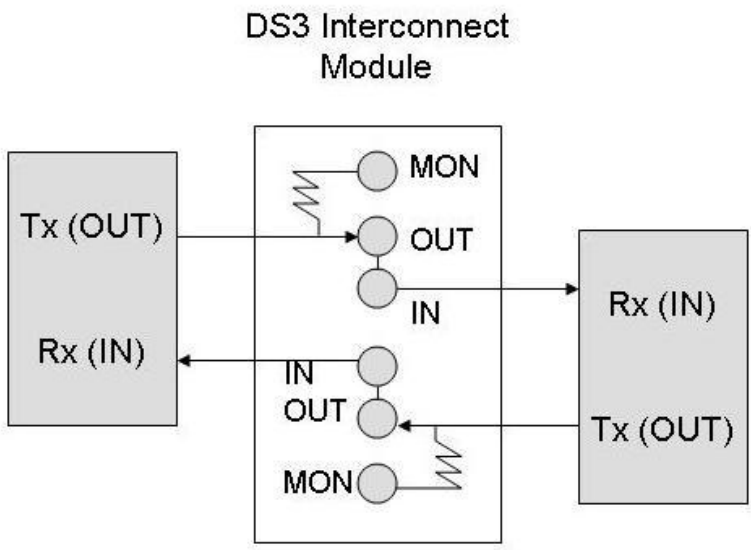
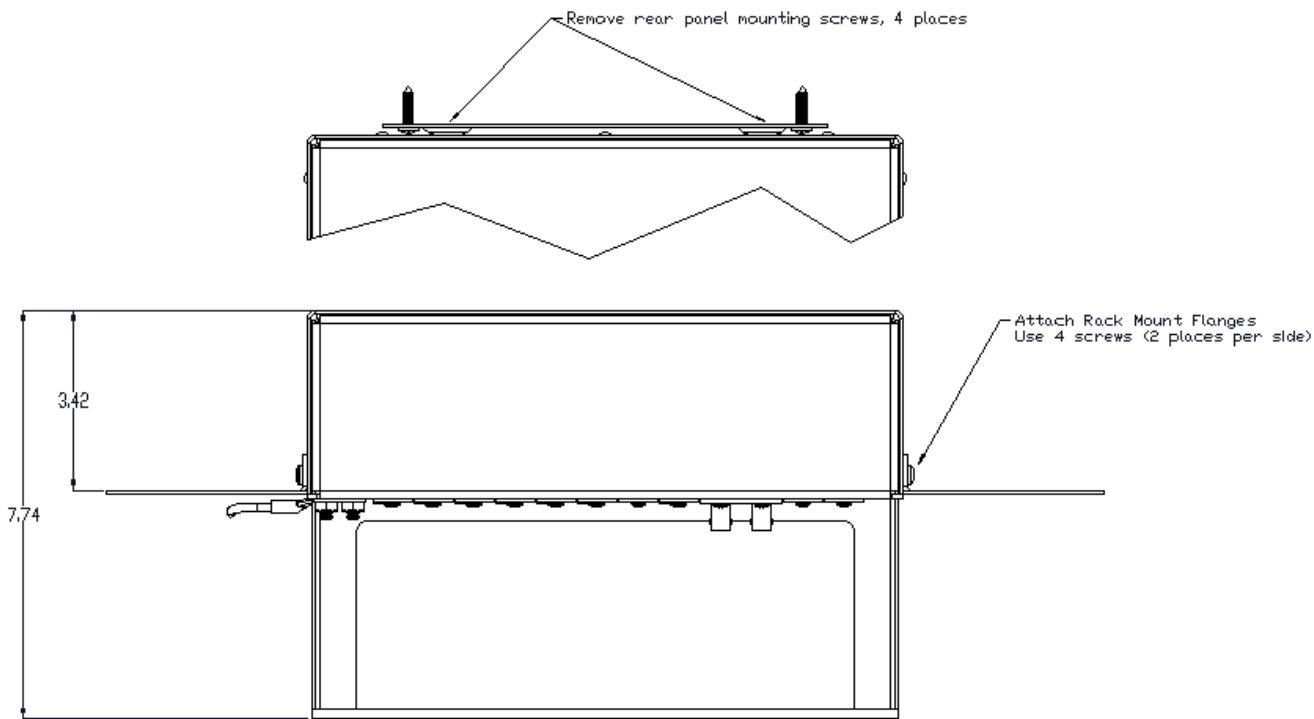

Figure 1 – DS3 Cable Interconnections
Figure 3. Optional 19" RS-310-C Adapter Mount Flanges (not provided with unit)
1. GENERAL DESCRIPTION: The Transtector DXR Digital Exchange Rack Protector is ideal for applications that require protection for T1/E1, 10/100BT, 1000BT, 48VDC and DS3 connections. The protection cards utilize silicon avalanche diode technology. The protection system consists of a versatile chassis that can mount to a wall surface or 2U 19" rack frame, with protection cards that load and connect entirely from the front face. The chassis system is available in 12-card wide and 4-card wide configurations. The DS3 and T1/E1 protection cards are optimized for the specific applications and are marked with the type, input connection, output connection and trouble shooting monitor connection. The DS3 card features a direct bond between each BNC ring to the chassis ground for optimum signal integrity and best grounding practice. The DS3 module within the DXR utilizes two individual PCB's to accomplish one interconnect point. By doing this, one complete DS3 circuit can be accomplished. Figure 1 illustrates the circuit schematic detailing the cable crossing that must be employed for DS3 equipment communications. The Ethernet cards provide the best protection and signal transmission integrity available on the market and are marked with the input and output connections. System status monitoring for the Ethernet circuits and protection cards are determined through the network polling functionality built into all standard Ethernet equipment. The DXR pn 1101-875-1 is provided with a fully configured system of four each T1/E1 protection cards, two each 1000BT protection card. A 48VDC module is available in addition to the other modules. The 48VDC module provides 4 pairs of input lines and 4 pairs of output lines. Two RJ-45 connectors are used for the I/O's and are located on the face plate. Unused card slots are covered with a blank plate. The protection circuits offer bi-directional protection, with the optimum protection oriented towards the sensitive equipment connected to the O (output) side. All RJ-45 connected protection configurations offer straight through pin-outs from the input to output connectors. It is up to the user to swap between the Transmit and Receive wire pairs if required. The DXR chassis are intended to be mounted to almost any type of panel surface, as close as possible to the protected equipment and a dedicated set of ground studs are provided that must be bonded to the nearest master ground bar or equipment rack ground bar for proper surge protection functionality. In the unlikely event of surge protection self sacrifice, the individual protection cards will fail short to disrupt communication. The protection cards can be replaced for ease of service. The protection cards incorporate fusing elements to open the circuit for human safety in the event of power line crossing onto the data lines.
6. **INSTALLATION:** The DXR products are intended to be installed indoors. Refer to Figure 3 for the 12-wide chassis type and orient the chassis with the ground studs down. Refer to Figure 4 for the 4-wide chassis type and orient the chassis with the ground stud to the left. Note the ground stud hardware on the 4-wide chassis type can be easily moved over to the right side of the chassis. The 4-wide chassis is designed to adapt to 19" rack hole spacing. Mount the DXR as close to the protected equipment as possible with the screws at each corner of the chassis (hardware provided). A dedicated ¼-20 ground hardware on the unit must be connected to the nearest master ground bar system (crimp on lug and hardware provided). All data cabling is connected through the front of the DXR rack chassis. The 12-wide chassis incorporates a unique tray feature with tie down bar that allows easy connector access and ample cable management with strain relief. Each protection card is marked with the respective T1/E1, 10/100BT, 1000BT, 48VDC or DS3 signal type and a white area is provided for the user to mark the field wiring reference designation. Individual protection cards can be installed, added or replaced from the front via a screw along the top edge. The card mounting screw must be securely fastened to assure proper grounding and surge protection. Unused spaces in the DXR-12 rack chassis are protected by blank cover plates. The specific DS3 cable installation is shown in Figure 1 to clarify the communications requirements and cabling for the DXR DS3 protection module.
Optional flanges are available from the factory to convert the DXR 12 chassis to 19" RS-310-C compatible rack mount chassis (refer to figure 3). Remove the four screws that attach the rear panel mount bracket and use those fasteners to attach the rack mount conversion flanges. Mount the DXR into the 19" rack with 4 each 10-32 screws (hardware provided with the flange brackets) and bond the unit to ground as described. Alternate chassis styles are available. Refer to figure 4 for the mechanical details on the Quad-chassis kit option.